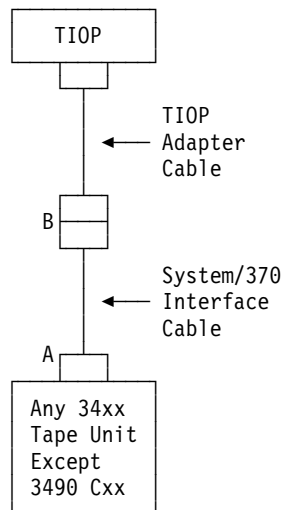

Figure 20. Tape Subsystem Cable Connections
2. The tape subsystem cables connect as shown in Figure 20.
- a. Disconnect the System/370 interface cable from the I/O device control unit (at **A** in Figure 20).
- b. Disconnect the TIOP adapter cable from the System/370 interface cable (at **B** in Figure 20 on page 658).